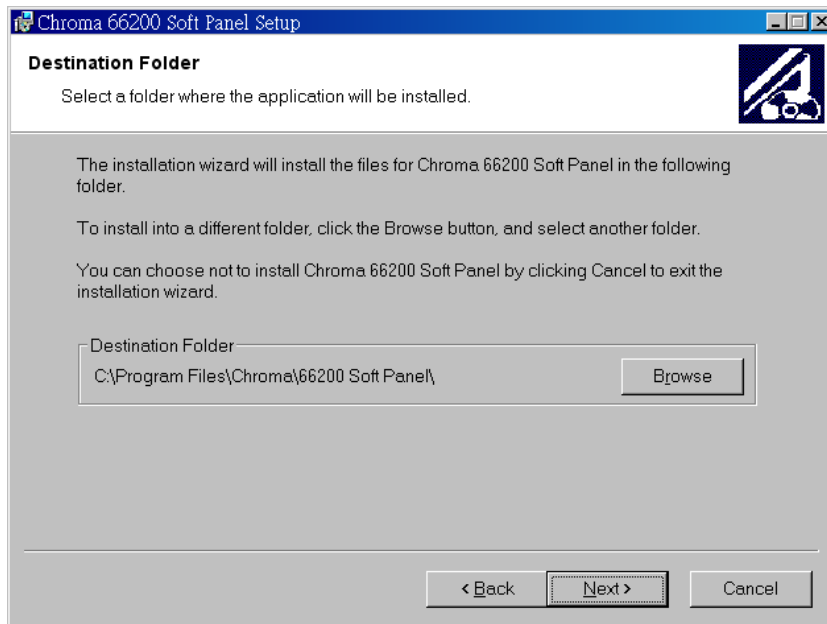

Figure 2-4 Selecting Chroma 66200 Soft Panel Installation Path
3. Select the installation path. The program is default installed in C:\Program Files\Chroma\66200 Soft Panel directory as Figure 2-4 shows. To change it, click **Browse** and specify the path for installation and click **Next** to proceed.